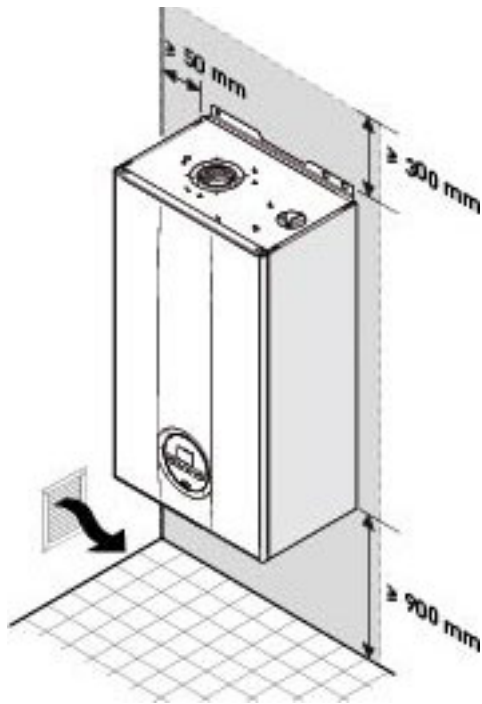

Fig. 12
- Remember to consider the space needed in order to access the safety/adjustment devices and to carry out maintenance interventions (see Fig. 12).